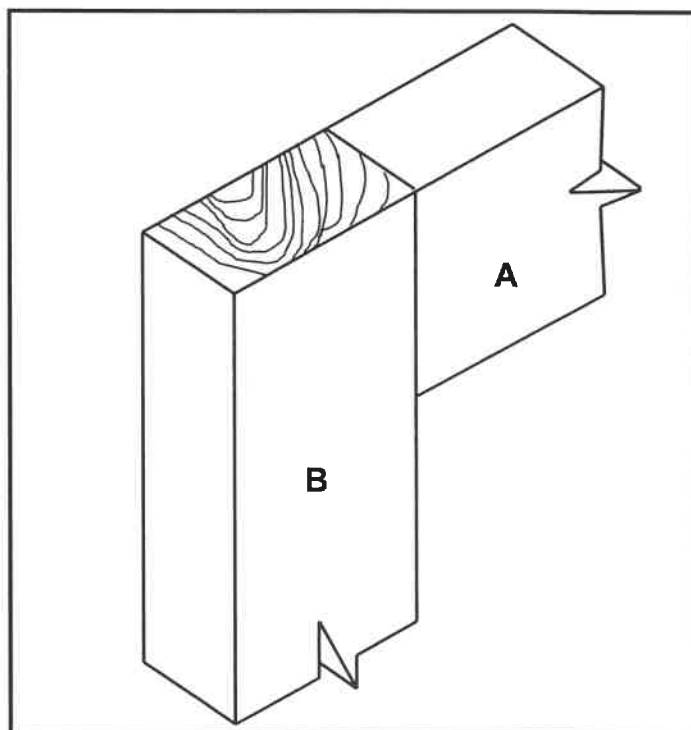

FIGURE 6.2
6.2 FIGURE 6.2 below shows the incomplete assembled view of an open haunched mortice and tenon joint. Study the picture and answer the questions that follow.